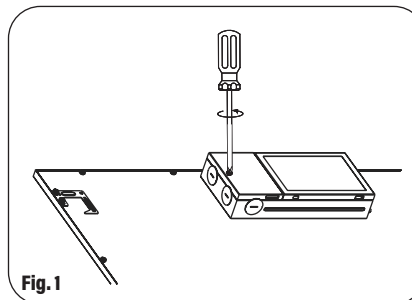

Fig. 1
2. Open the cover of the junction box. (Fig. 1) Choose the knock hole in the junction box cover and open it.